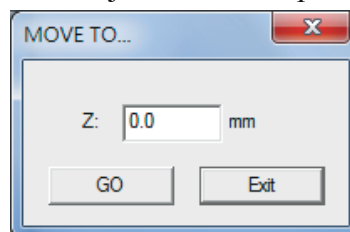

Fig. 1.7.33
1. Click “MOVE TO...” button and input the value in the dialog box like Fig.1.7.33 and click “GO,” the Z Axis will move to that specific position. The moving speed can be adjusted from “Speed” parameter.